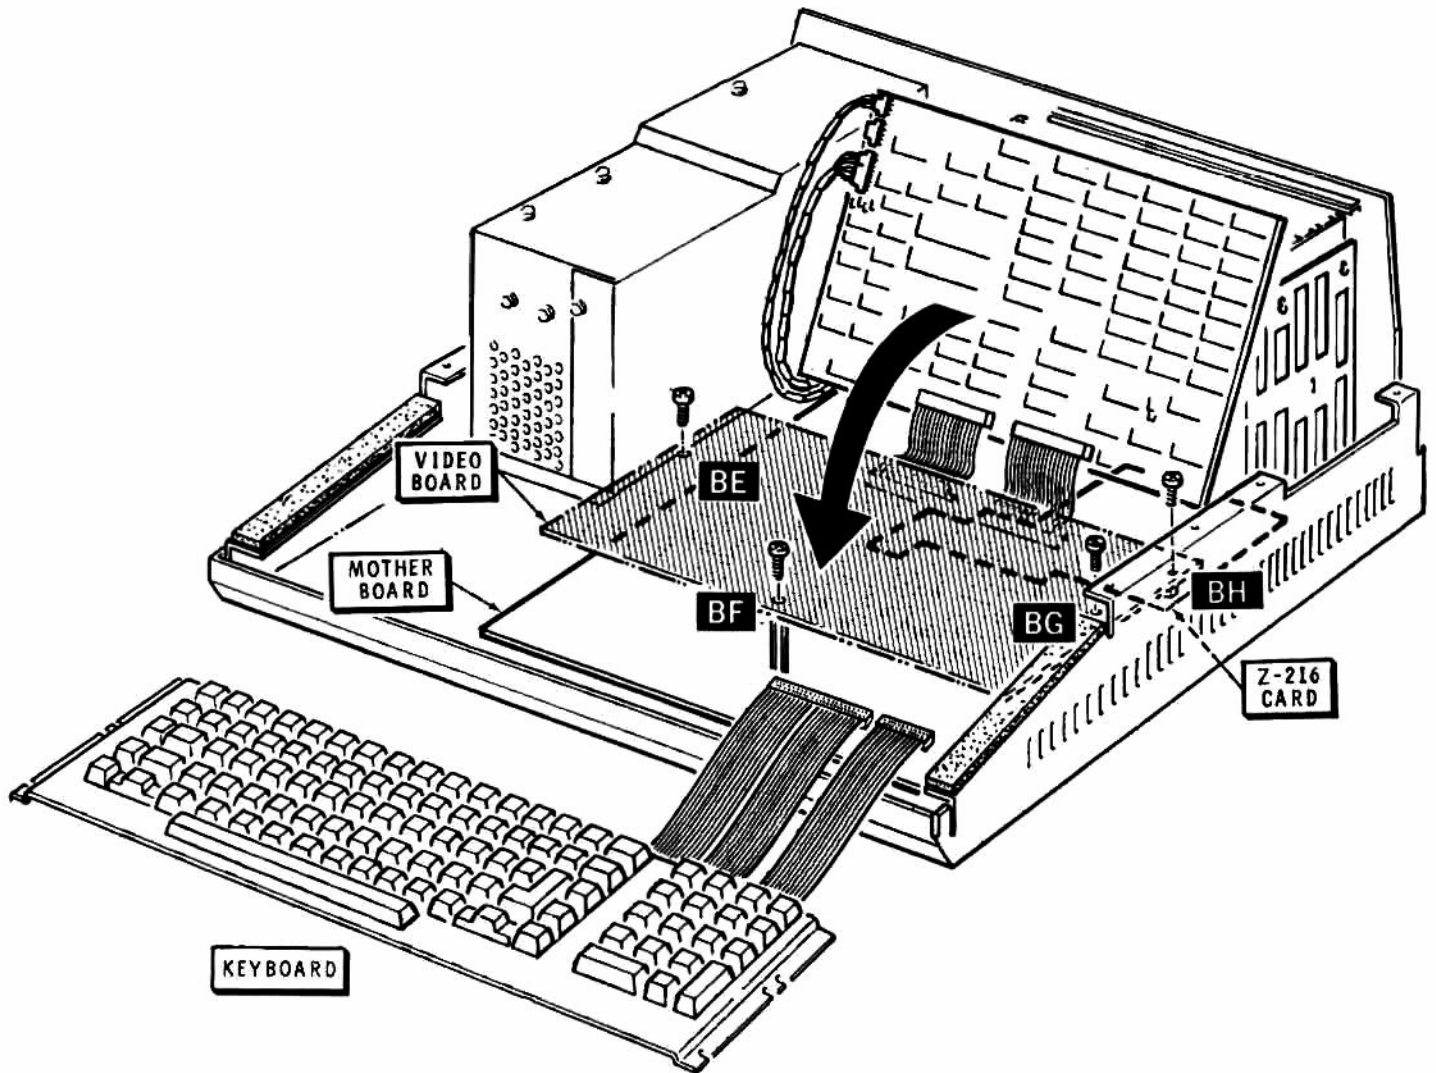

Figure 2.11. Final Z-216 Card Installation
- Refer to Figure 2.11 and reposition the video board as shown. Carefully pivot it forward until the hole at BF aligns with the spacer; secure the board using the previously retained screws at positions BE, BF, and BG.